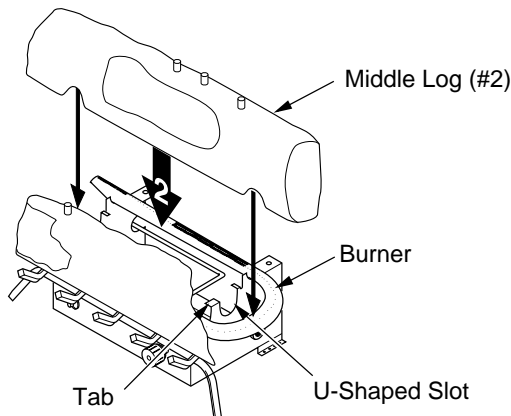

Figure 25 - Installing Middle Log #2 (CCL3930PTB/NTB Shown)
2. Place the base of the middle log (#2) in the U-shaped slots of the grate base. The cutout on the right of the middle log should fit over the burner (see Figure 25). Make sure the front of the middle log is resting on the tabs of the grate base.